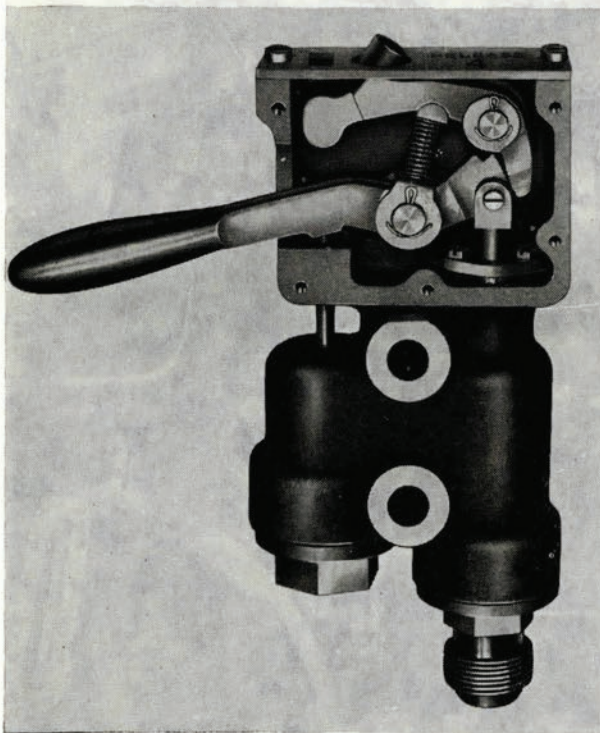

Figure 184—Vent-Closing Valve at OFF.
1. After pressing a latch release button, place the vent-closing valve setting lever to OFF, figure 184.